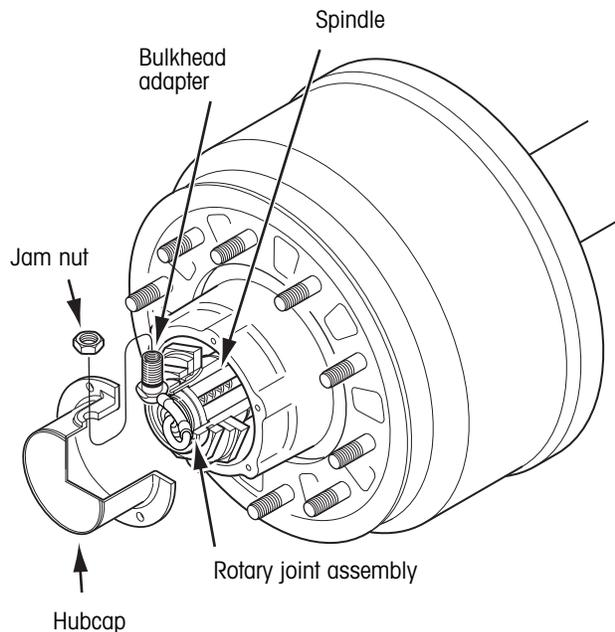

figure 39. Hubcap to bulkhead adapter removal
1. Remove the jam nut from the rotary joint bulkhead adapter and remove the hubcap (figure 39).